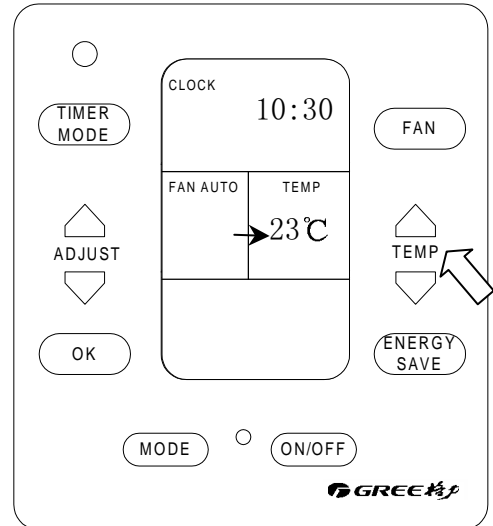

Fig.10: set the temperature at 23 °C
- ❖ Press the “TEMPERATURE ADJUST” button, the temperature setting will be displayed ( usually the room temperature is shown in the LCD[ liquid crystal displayler] ).(Fig.10)